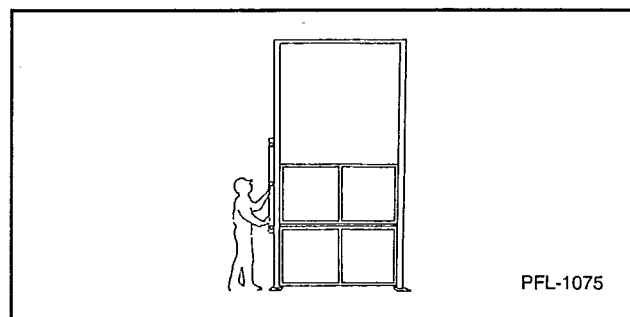

Figure 14
8. Make sure the posts are plumb in both directions. See Figure 14.